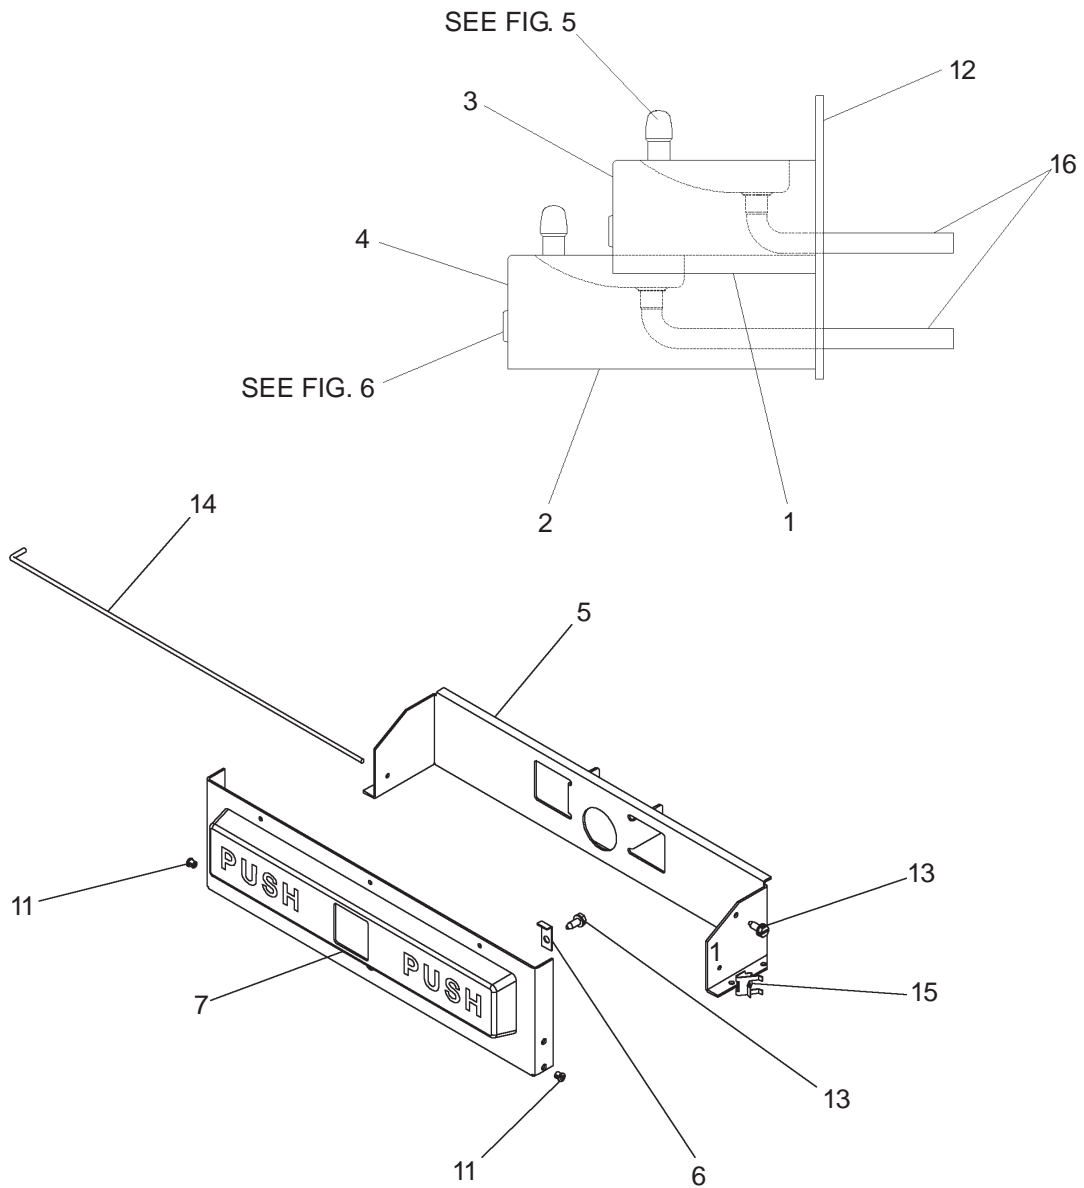

FIG. 6
- 4. Remove bottom cover(s) from fountain(s) and save the screws.** Assemble push rod(s) to fountain(s). See Fig. 6. (Push rods provided with freeze-resistant boxes)